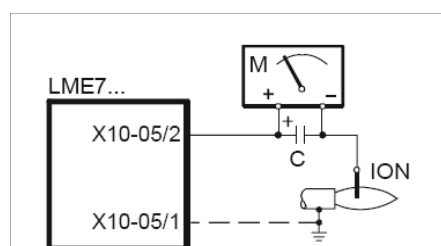

Fig. 5: Detection by electrode
3. Screw VD on with 2 M5 screws for each, max. 5 Nm/44 in.-lb., fig. 5/6.